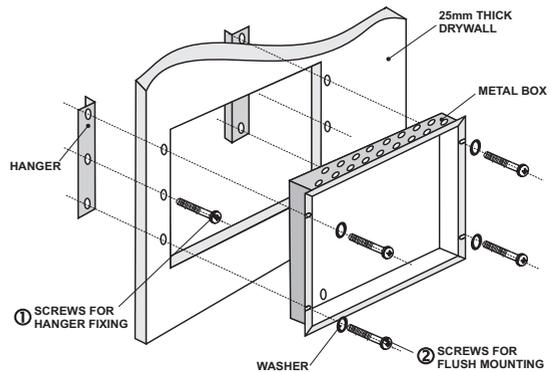

Figure 7.
- Attach the hangers to the internal side of the wall and fix them with the screws (Position 8, page 31), as shown in Figure 7, Position 1.
- Run all external cables in the box and then place it into the mounting opening. Fix the bottom using the mounting screws and washers (Positions 5 and 7, page 31) - Figure 7, Position 2.